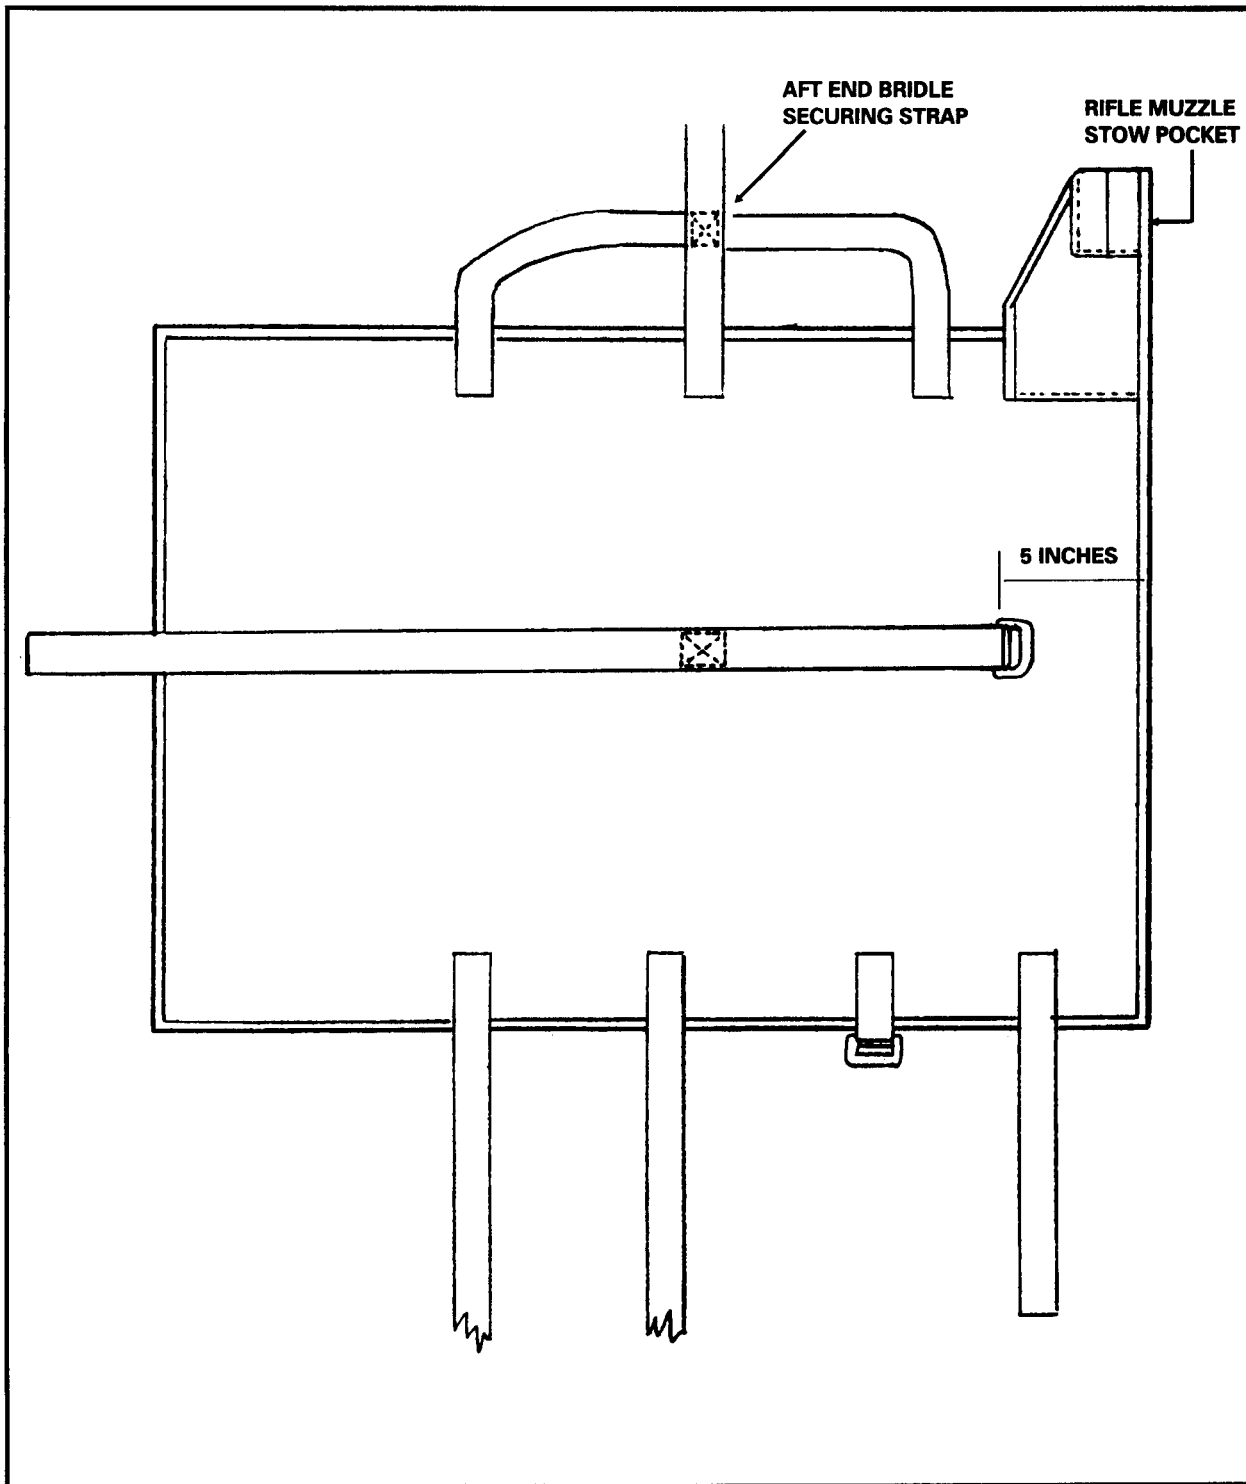

Figure 12-62. A-7A strap centered and stitched.
b. Cut the running end of an A-7A strap so its overall length is 38 inches. Place the strap on the center mark and stitch in place forming a 2 1/2-inch box-X stitch using No. 6 nylon thread. Ensure the buckle end is 5 inches from the side of the pack (Figure 12-62, page 12-75).